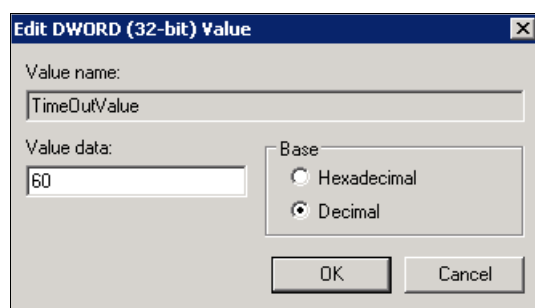

Figure 4-1 Windows timeout value
4. Confirm that the value for the key is 60 (decimal value), and, if necessary, change the value to 60, as shown in Figure 4-1.